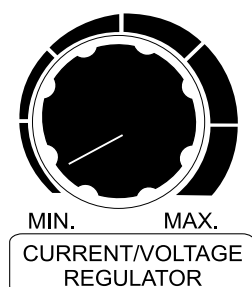

Figure 49. Current/Voltage Regulator Control Knob (Voltage Adjust)
- Using the welding voltage control knob (Figure 49) adjust the voltage to the desired setting as referenced in Table 23 (Single Mode) or Table 24 (Dual Mode).